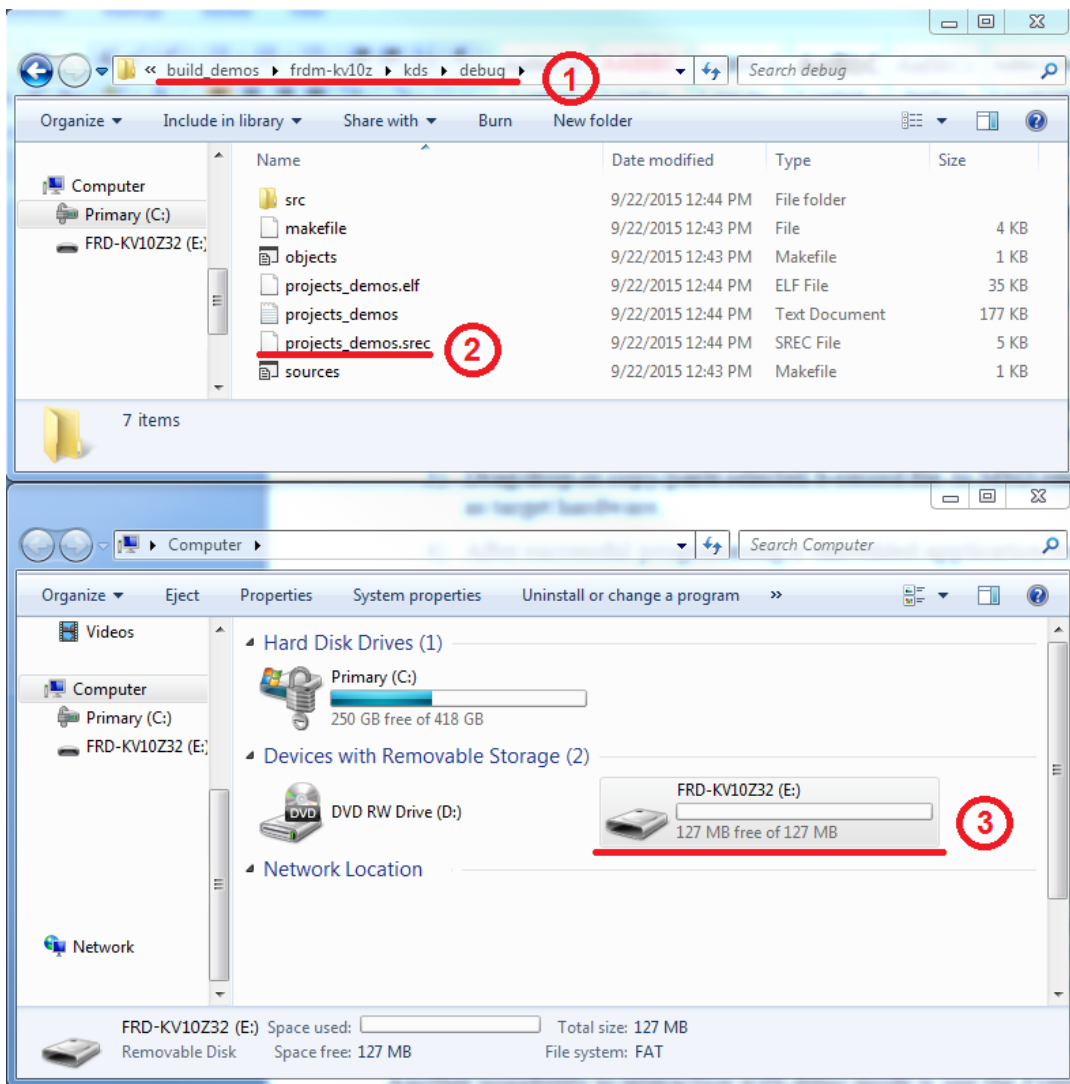

Figure 34. OpenSDA MSD
2. Locate the generated binary file (*.srec*, *.s19*, or *.bin* file extension) (for example *pmsm_package/build_demos/<board_MCU>/<tool>/debug/projects_demos.srec*, as shown in Figure 34, Point 1).
3. Drag/drop or copy/paste the selected binary file (Figure 34, Point 2) to the MSD removable drive with the volume labelled as the target hardware (Figure 34, Point 3).